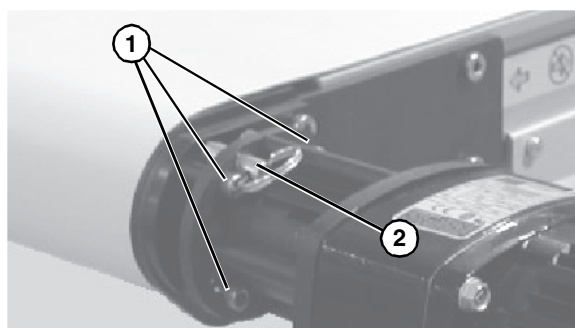

Figure 6
5. Tighten screws (**Figure 6, item 1**) to 146 in-lbs (16.5 N-m) and install anti rotation pin (**Figure 6, item 2**).